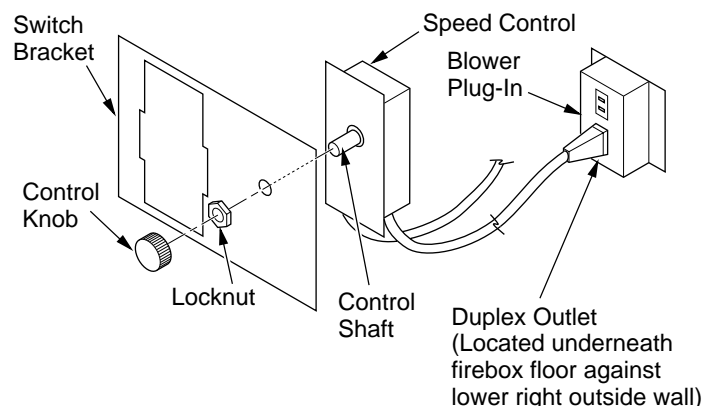

Figure 26 - Attaching Speed Control to Firebox
5. Mount speed control box to switch bracket by placing the plastic control shaft forward through the opening in the switch bracket (see Figure 26).
- Mount the speed control box against the mounting plate provided in the lower fireplace cavity by placing the plastic control shaft forward through the round hole (see Figure 26, page 16).
- While supporting speed control, secure control shaft with lock nut by pushing and turning lock nut with pliers clockwise until it is tight against mounting plate. Place control knob provided on shaft (see Figure 26, page 16).